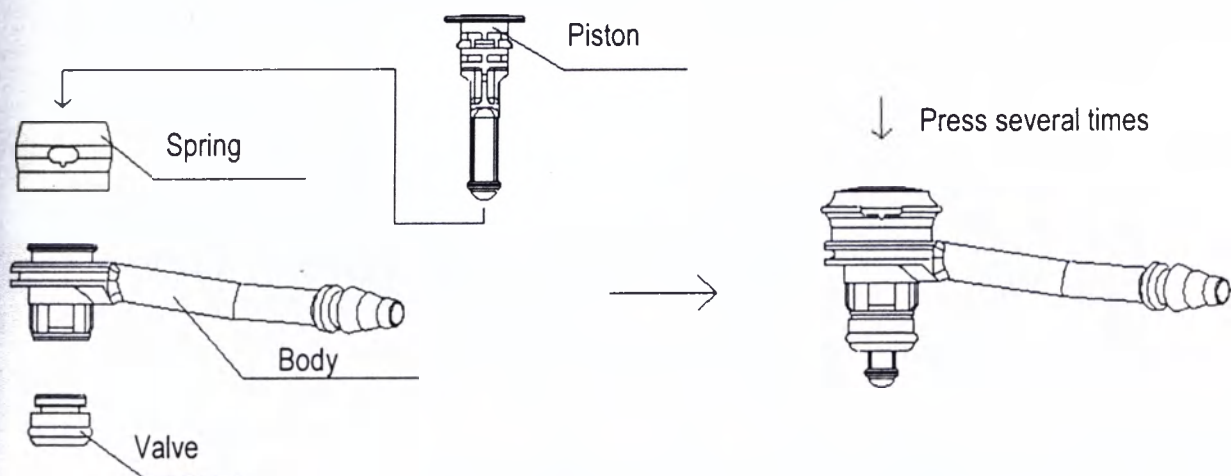

Figure 1. Connect the exhaust valve to the bronchoscope
- Insert the exhaust valve into the bronchoscope port, give consideration to the direction of the valve body. Press the valve with your finger to fix it with the click. (see Figure 1).